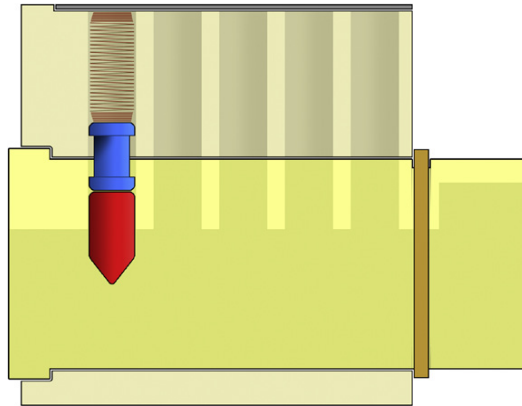

FIGURE 4.16
Starting with a lock that features just a single pin stack (which includes a spooled driver pin, as shown in Figure 4.16), try to observe the significant “wobble” of the plug, and experiment with applying tension and pressing on the pin stack. Add a marker line like the one referenced in Figure 4.9 and try to observe the same movement shown in the subsequent diagrams. If you can feel or see the “counter-rotation” which was discussed earlier in this chapter, try moving on to additional progressive locks featuring spool pins. I would suggest the following progression:
- Progressive Spool Number One—A single pin stack featuring a spooled driver pin (see Figure 4.16).